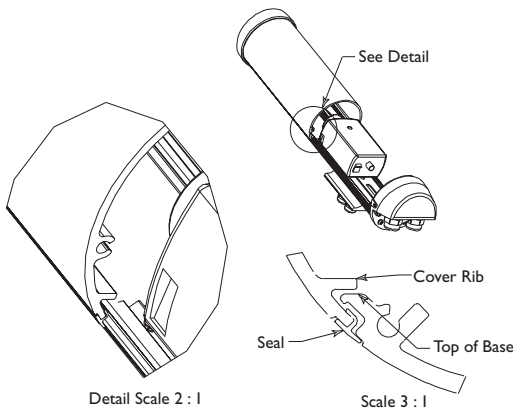

Figure 8: Reinstalling the Cover
2. Reinstall the cover. Align the bottom of the cover ribs with the top of the base. Slide the cover onto the base. Make sure the seal is not folded over or torn. Use silicone grease to lubricate the seals if necessary. See Figure 8.